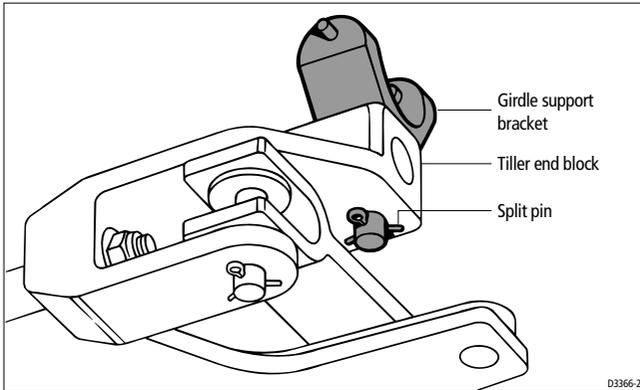

Figure 4: Fitting the girdle support bracket (Volvo)
1. Fit the girdle support bracket (supplied in the installation kit) as shown in *Figure 4*: